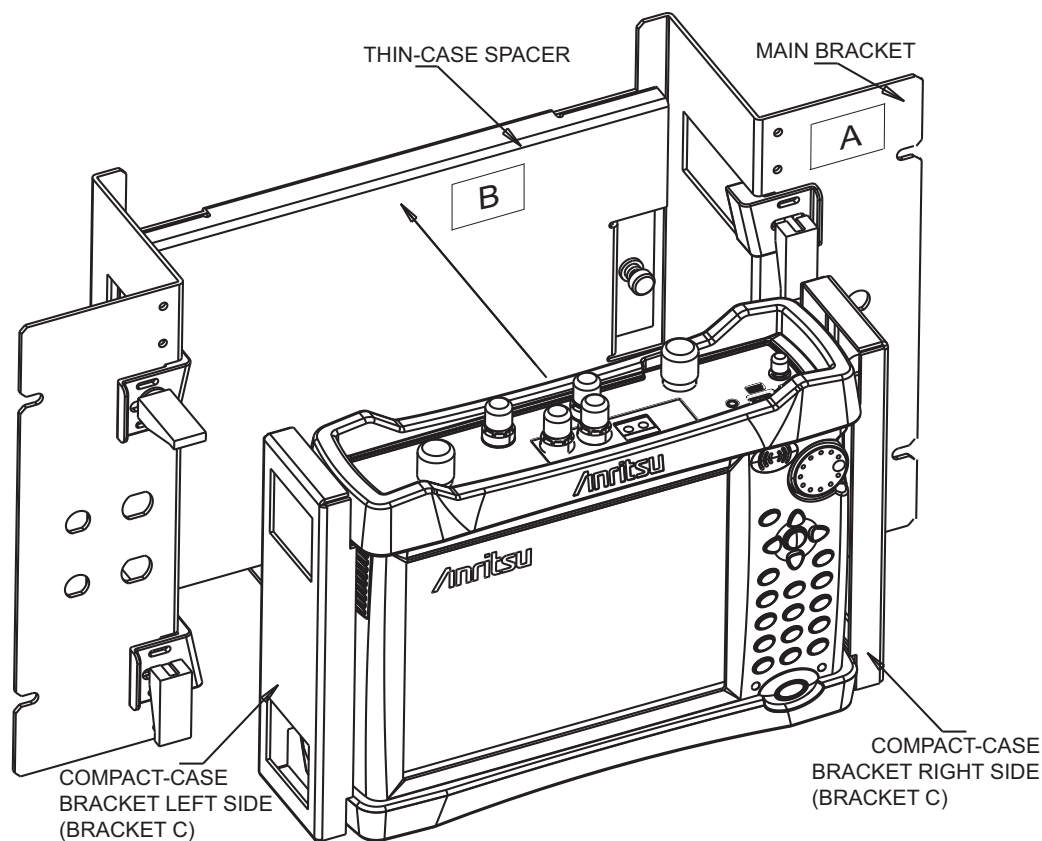

Figure 1-11. Compact-Case Rack Mount — Mounting the Instrument
3. Ensure the tightness of the thumb screws that hold the spacer (D) to the bracket (A). Refer to Figure 1-11 on page 1-14.
6. Mount additional connectors (if needed) in the holes provided in Main Bracket (A).
5. Ensure the tightness of the thumb screws that hold the spacer (B) to the bracket (A). Refer to Figure 1-11 on page 1-14.
8. Mount additional connectors (if needed) in the holes provided in Main Bracket (A).